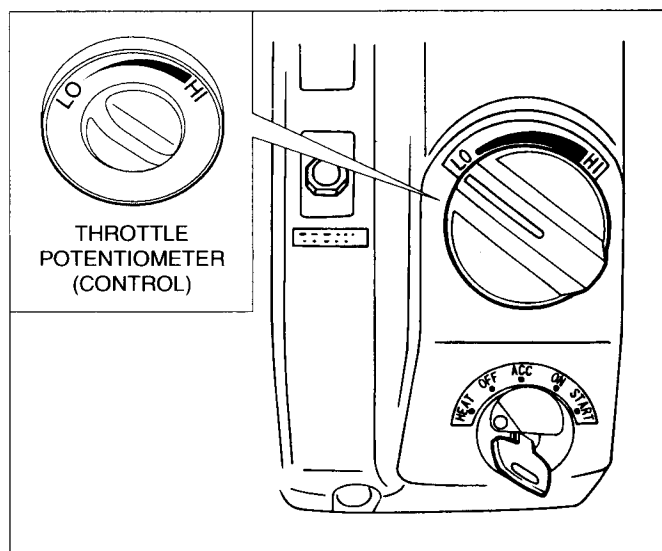

FIGURE 2.5
3. Throttle Potentiometer– FIGURE 2.5